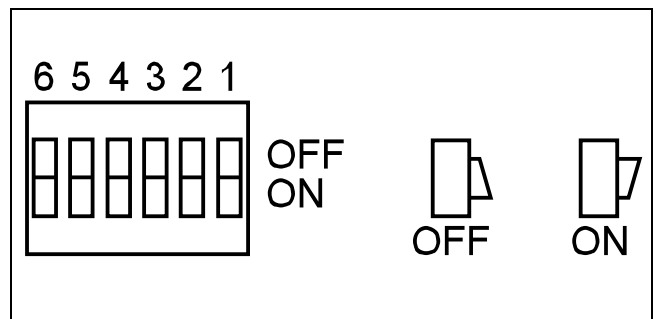

Fig. 2 DIL switch
- Connect the power supply to the screw terminals by wire (maximum cross-section $1 \times 4 \text{ mm}^2$ or $2 \times 1.5 \text{ mm}^2$) (see also fig. 2). The cross-section of the protective conductor must conform at least to the cross-section of the power supply cable.